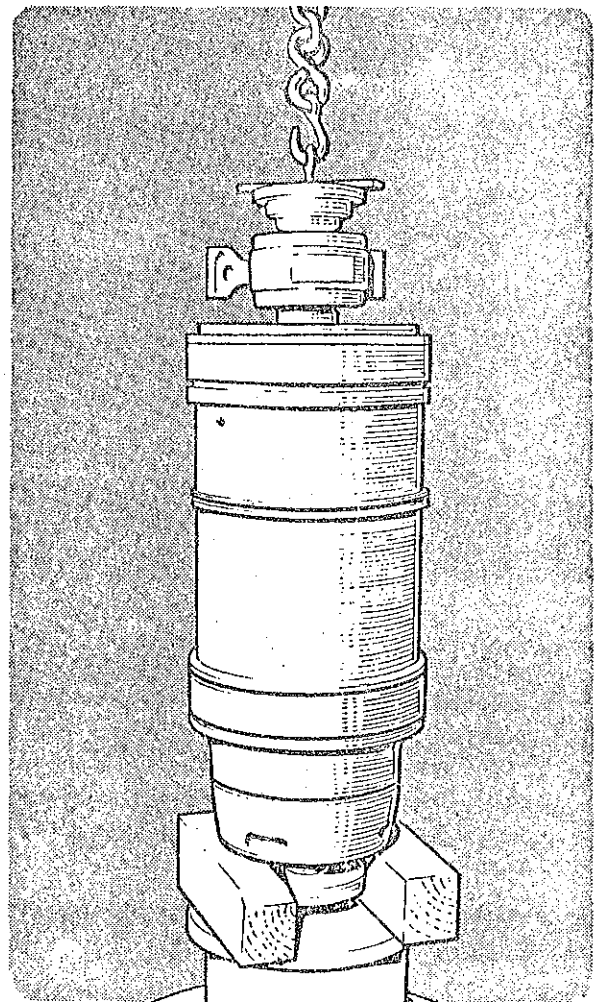

Figure 9. Vertical position for Conveyor removal
- (l) Stand the bowl assembly by placing underneath the rear hub end blocks of such size that the pulley will clear the floor (Figure 9). Do not rest the pulley on the floor and, under no circumstances, attempt to disassemble the bowl in a horizontal position.